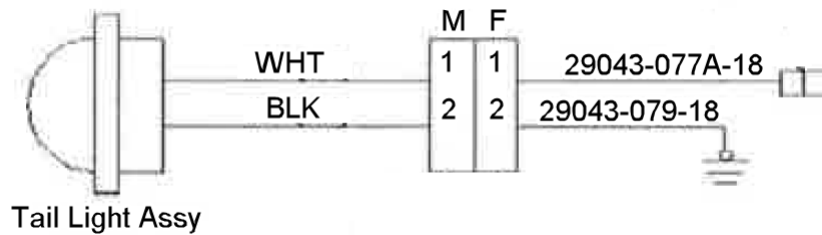

Figure 47-15
13. Add WHT and BLK wires connected to tail light 7155402 to a male 2-pin connector. Connect male 2-pin connector to female 2-pin connector. See Figure 47-15.